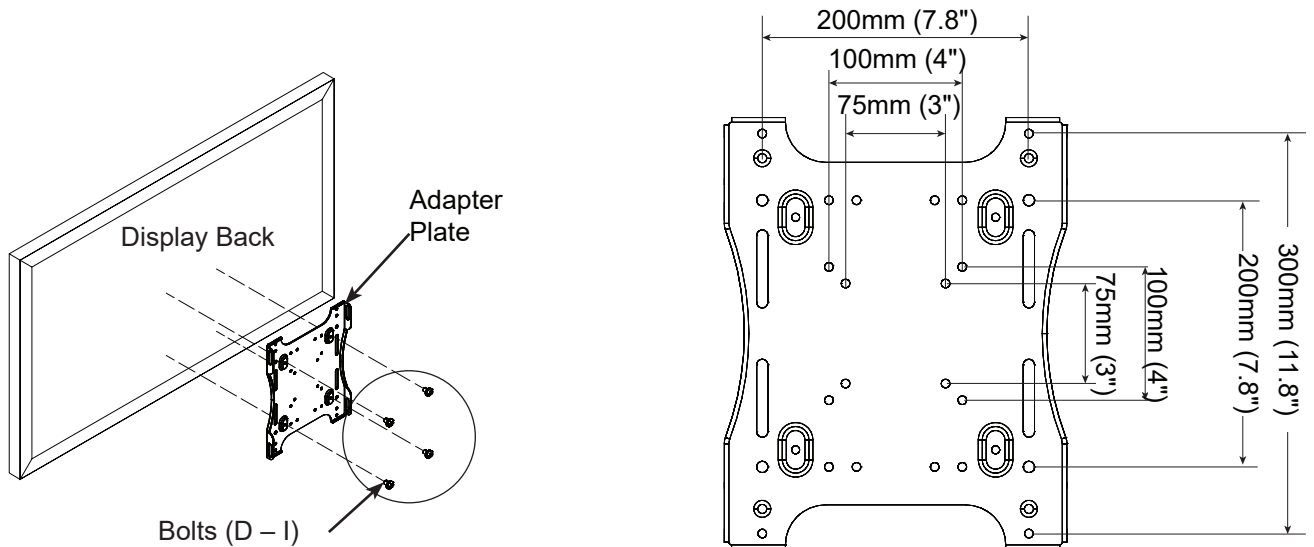

Figure 3
1. Attach display bracket to TV VESA holes using 4 bolts (D, E, F, G, H, or I) and washers (M or N); spacers (J, K, or L) may be required depending on display design. (see Figure 3).